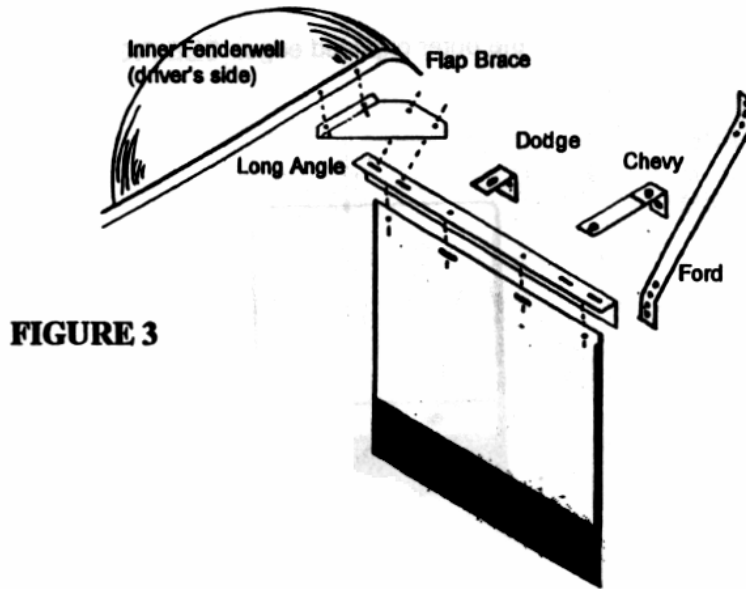

FIGURE 3
STEP 5: Using hex head bolts, lock washers, and nuts, bolt the mounting plate to the long angle bracket. Clamp the mud flap to the long angle bracket **SEE FIGURE 3**
STEP 6: Position mud flap assembly into the fender well and drill two 1/4" holes through the inner fender well lip. Install hex head bolts, lock washers, and nuts. **SEE FIGURE 3**
STEP 7: Drill four 1/4" holes into the top of the flap and attach it to the long angle bracket. **SEE FIGURE 3**
STEP 8: Bolt on the bracket as shown in **FIGURE 3** for your specific vehicle.